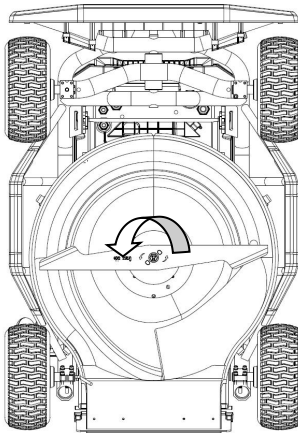

fig1
- ①. Turn off the power and remove the battery
- ②. Place the machine upright
- ③. Turn counterclockwise to remove the screws (fig1)